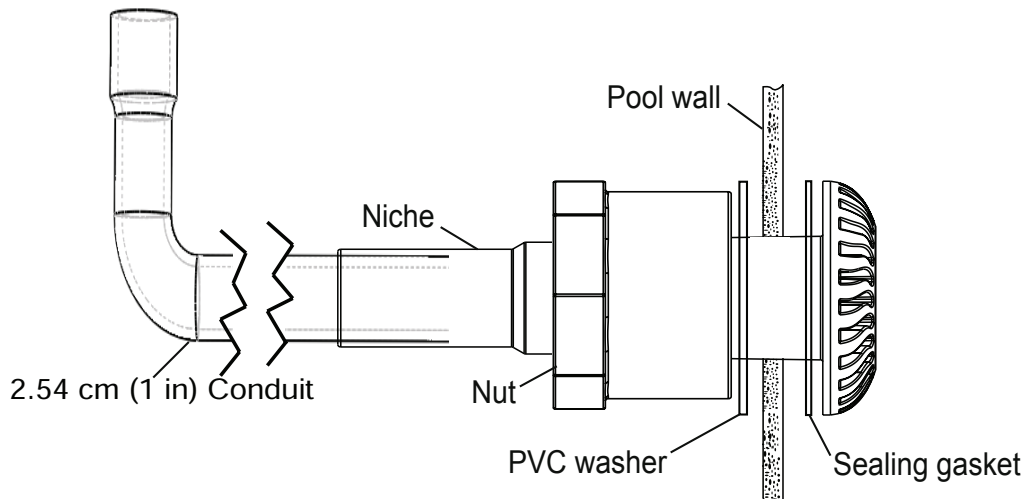

**Figure 2: Gunite Light Installation Diagram**
- The Junction Box and the low voltage transformer is located at least 4 (four) inches (10.16 cm) above ground level or eight (8) inches (20.3 cm) above maximum water level, whichever is higher. The Junction Box must be at least 48 inches (1.22 m) from the edge of the pool. See Figure 2 on page 8.
- For non-metallic conduit, a No. 8 AWG bonding/grounding wire must be installed through the conduit from the Junction Box to the bonding/grounding lug inside the niche. Seal the wire/lug connection with a listed sealant to protect the connection from possible pool water corrosion. See Figure 2 on page 8.
- The GloBrite light niche must be properly installed so that the top edge of the lens of the GloBrite light is at least 4 inches below (not more than 48 inches below in Canada) the surface of the water in the pool or spa. See Figure 2 on page 8.
- The niche must be properly installed so the center line of the Underwater Light's lens is at a maximum depth of 600 mm below the surface of the water in the pool, see Figure 2 on page 8.
1. **Install Sleeve:** Locate position on vertical pool or spa wall where light is to be installed. The top of the light lens must be a minimum of 10.2 cm (4 in) inches below normal water level. Refer to Figure 2 on page 8 for the exact depth requirements.
6. Install the conduit. See Figure 2 on page 8.
2. At the 12 VAC transformer or junction box, cut off any extra cord. Leave at least 15.2 cm (6 in) of cord in the Junction Box or transformer to facilitate the light installation, niche inspection. Cut off any extra cord. See Figure 2 on page 8. For junction box installation for Canada, see Figure 1 on page 5.
3. Strip back the outer cord jacket of the wires to expose the two (2) insulated conductors. Strip back the two conductors. Be careful not to damage the copper conductor.
4. Connect the two (2) conductors to the corresponding circuit wires in the Junction Box (black wire to power, white wire to common). Secure the Junction Box cover.